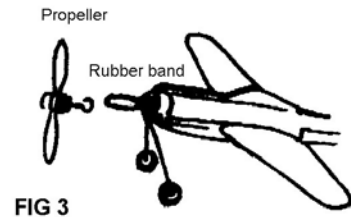

FIG 3
5. Hook propeller to rubber band mounted in fuselage already. (FIG 3).